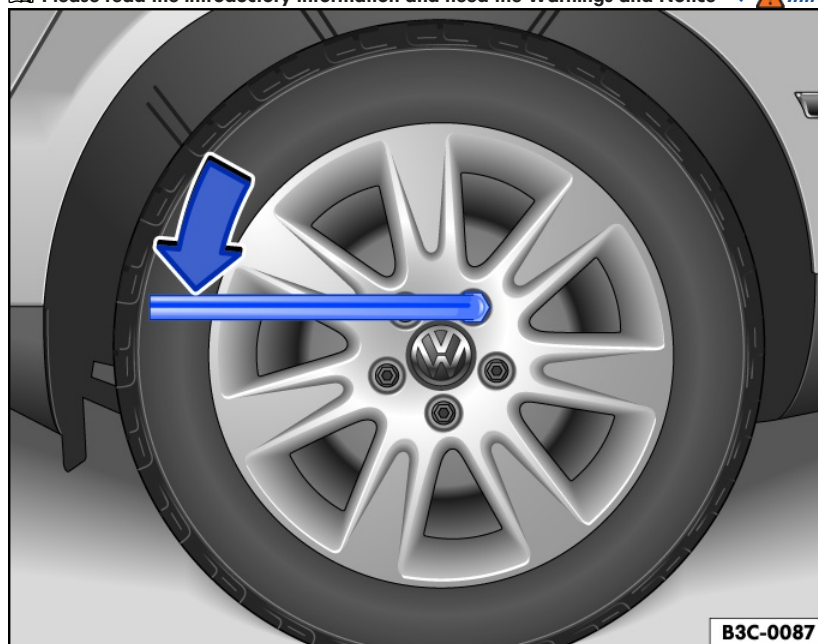

Fig. 169 Changing a tire: loosening the wheel bolts.
- Slide the lug wrench all the way onto the wheel bolt *fig. 169*.